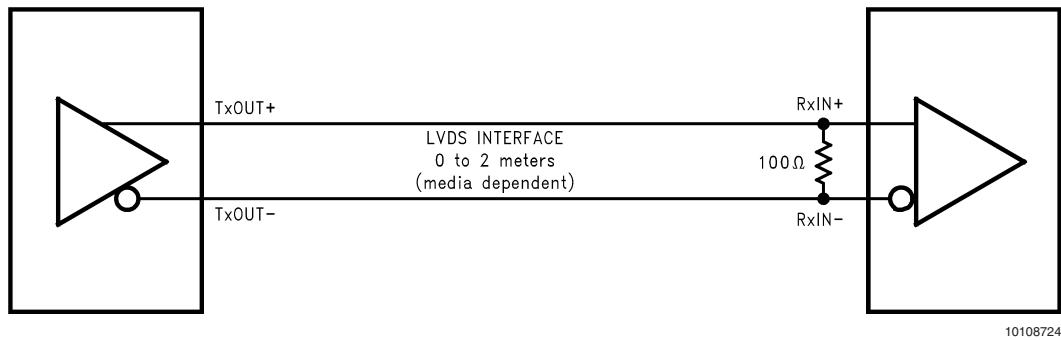

FIGURE 17. LVDS Serialized Link Termination
**TERMINATION:** Use of current mode drivers requires a terminating resistor across the receiver inputs. The CHANNEL LINK chipset will normally require a single  $100\Omega$  resistor between the true and complement lines on each differential pair of the receiver input. The actual value of the termination resistor should be selected to match the differential mode characteristic impedance ( $90\Omega$  to  $120\Omega$  typical) of the cable. Figure 17 shows an example. No additional pull-up or pull-down resistors are necessary as with some other differential technologies such as PECL. Surface mount resistors are recommended to avoid the additional inductance that accompanies lead resistors. These resistors should be placed as close as possible to the receiver input pins to reduce stubs and effectively terminate the differential lines.